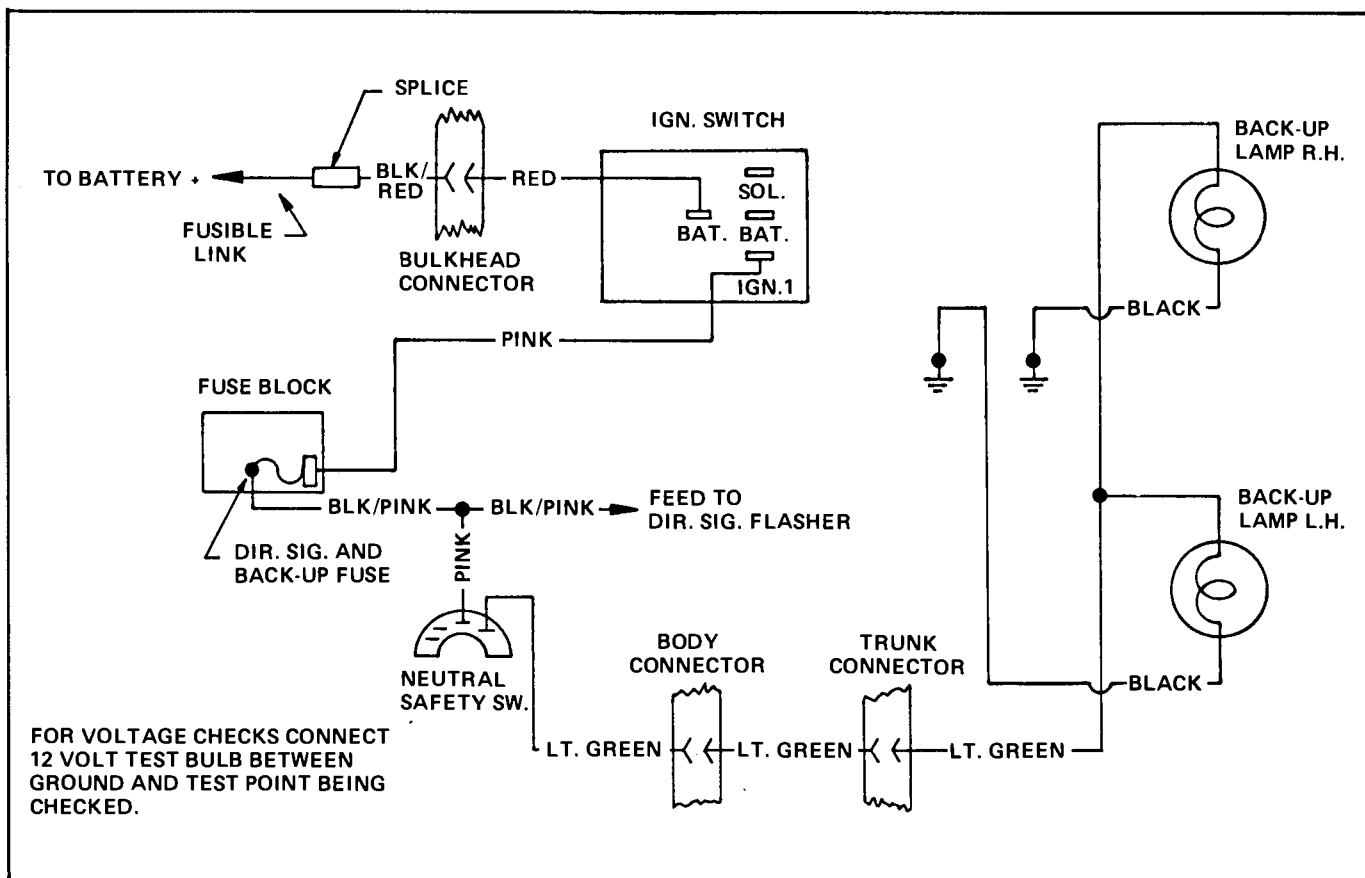

Fig. 12-22 Back-up Lamp Circuit
*See back-up lamp circuit (Fig. 12-22).